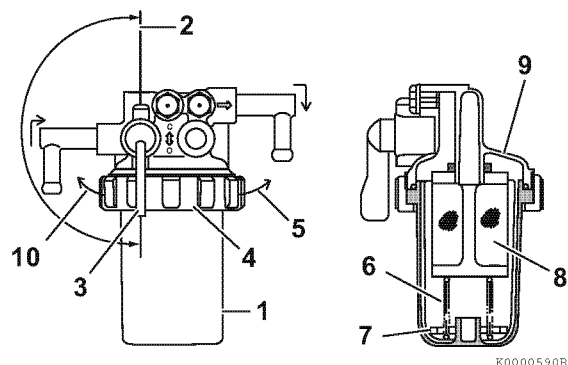

Figure 5-14
1. Position an approved container under the cup (**Figure 5-14, (1)**) of the fuel filter/water separator to collect the contaminants.
2. Close (**Figure 5-14, (2)**) the fuel cock (**Figure 5-14, (3)**).
3. Turn the retaining ring (**Figure 5-14, (4)**) to the left (**Figure 5-14, (10)**).
4. Carefully remove the cup (**Figure 5-14, (1)**) and pour the fuel into an approved container and dispose of properly. Hold the bottom of the cup with a shop towel to prevent the fuel from dripping. Wipe up any spills immediately.
5. Keep the retaining spring (**Figure 5-14, (6)**) and float (**Figure 5-14, (7)**) handy for reassembly.
6. Remove the element (**Figure 5-14, (8)**) by pulling it down.
10. Put the float (**Figure 5-14, (7)**) and retaining spring (**Figure 5-14, (6)**) inside the cup.
11. Reinstall the cup to the mounting flange (**Figure 5-14, (9)**) and turn the retaining ring (**Figure 5-14, (4)**) to the right (**Figure 5-14, (5)**). Hand-tighten only.
12. Open the fuel cock (**Figure 5-14, (3)**).